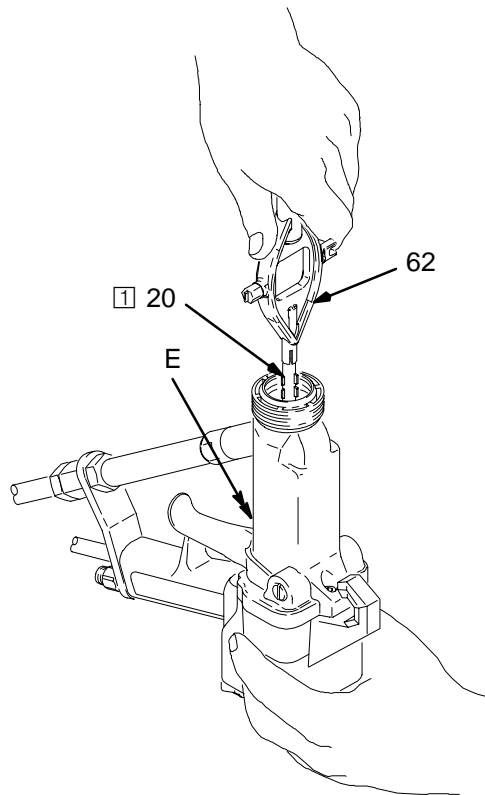

Fig. 18
2. Make sure the electrode (20) is tightened properly, as shown in Fig. 18, page 32.
3. Unscrew and remove the electrode needle (20) with the multi-tool (62). See Fig. 18. Be careful not to damage the contact wire. If the fluid rod turns, hold the back end of the fluid rod (E) by placing a screw driver blade into the slot on the shaft, near the trigger.